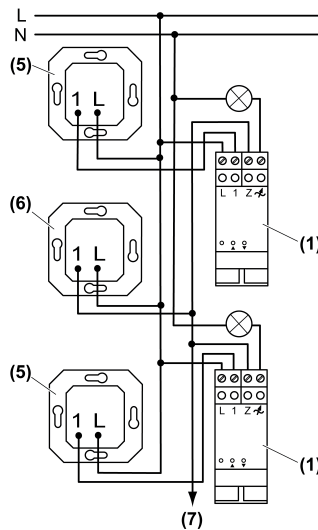

Figure 3: Connection diagram for central extension
- i** Only one 2-wire extension insert (see chapter 6.3. Accessories) can be used as a central extension (6).
- Connect the dimmer (1), local extensions (5) and central extension (6) according to the connection diagram (Figure 3).
- Optionally connect central extension to additional dimmers or additional central extensions (7) (Figure 3).